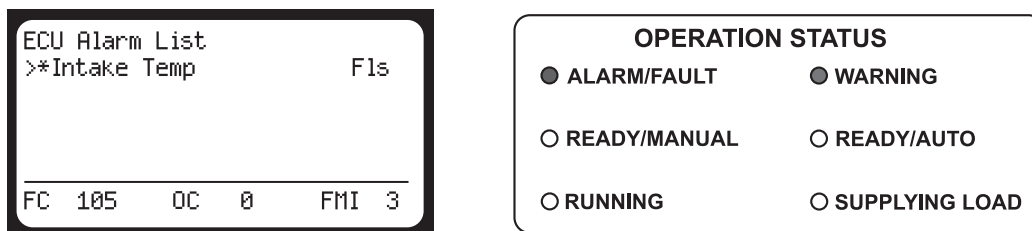

Figure 1
Press the “▲” scroll-up button (on the diagnostic keypad) to view the “ECU Alarm List.” This will allow the operator to view a description of the fault, along with the diagnostic trouble codes located at the bottom of the display. Refer to Figure 1. To further identify a fault by using these codes, refer to the John Deere Operator’s Manual supplied with
**\*Note:** The Suspect Parameter Number (SPN) is displayed as “FC” on the bottom left of the LCD window. Refer to Figure 1.